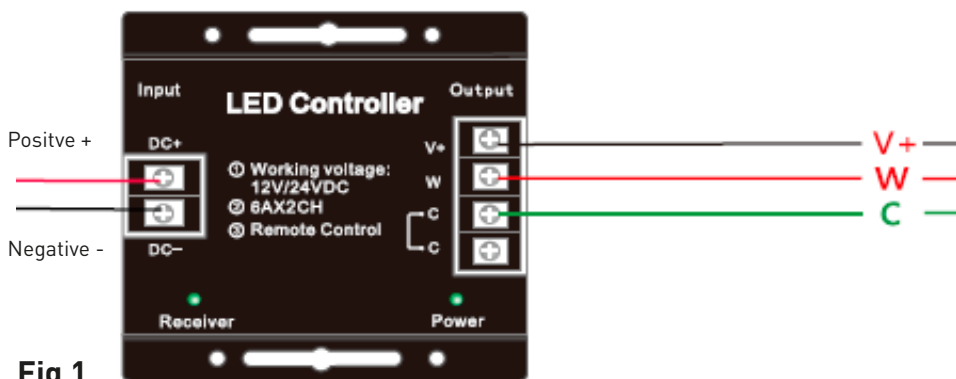

Fig 1
- Terminate the 12V/24V CCT LED Flex to the secondary side of the controller ensuring correct polarity is observed (see Fig 1)